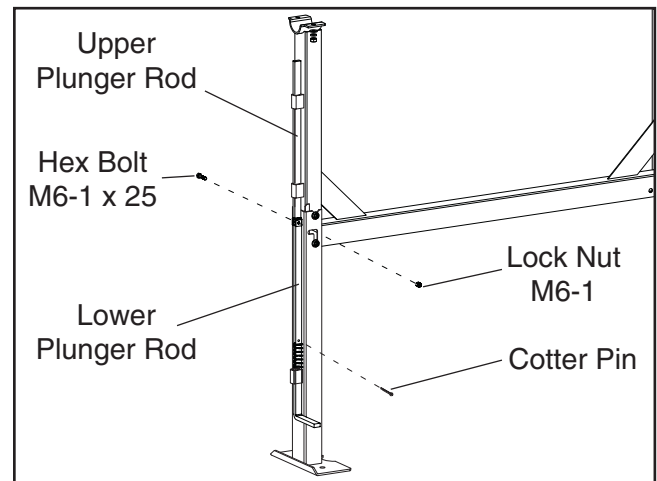

Figure 6. Plunger rod installation.
3. Connect the upper and lower plunger rods together with an M6-1 x 25 hex bolt and M6-1 lock nut, then insert the cotter pin where shown in **Figure 6**. Bend each leg of the cotter pin outward so it can't fall out.